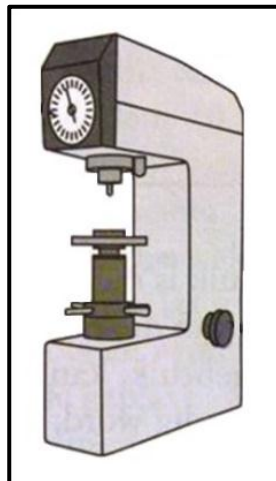

FIGURE 4.6
- D Carbide (1)
- 4.6 Identify the type of hardness tester in FIGURE 4.6 below.